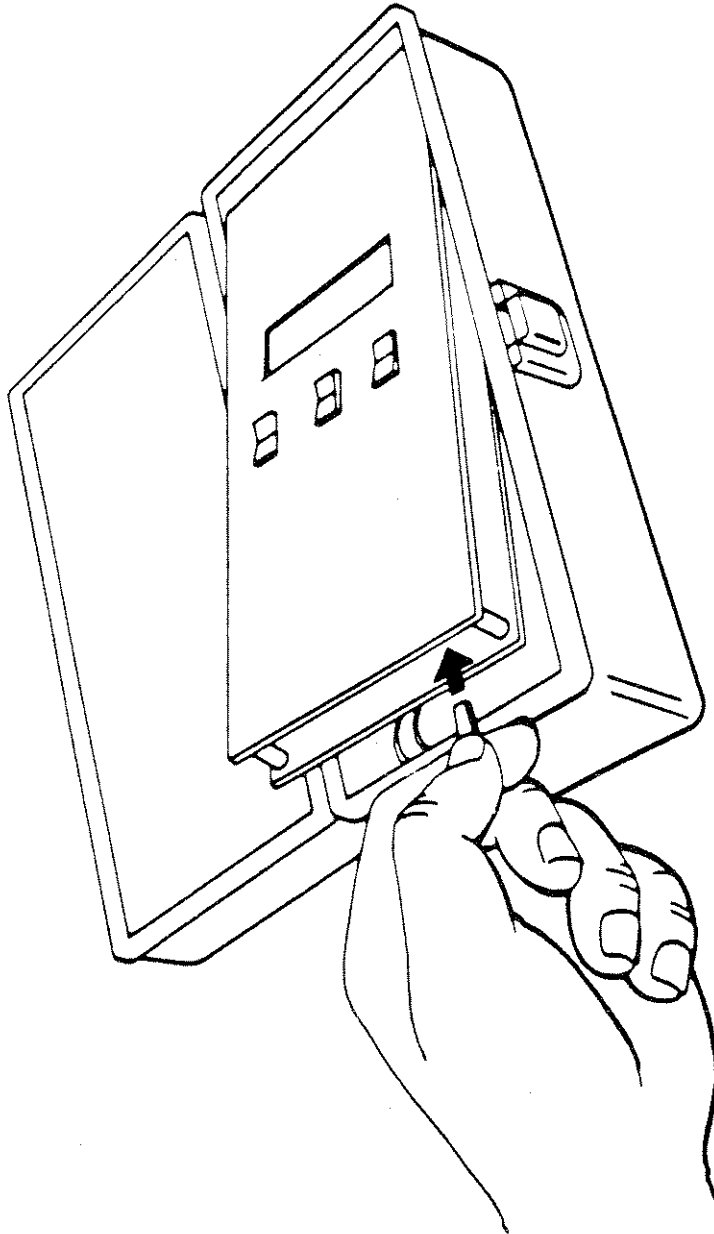

Figure 6-2
5. Disconnect the battery wires from the unit assembly by pulling gently on the plug (see Figure 6-2).